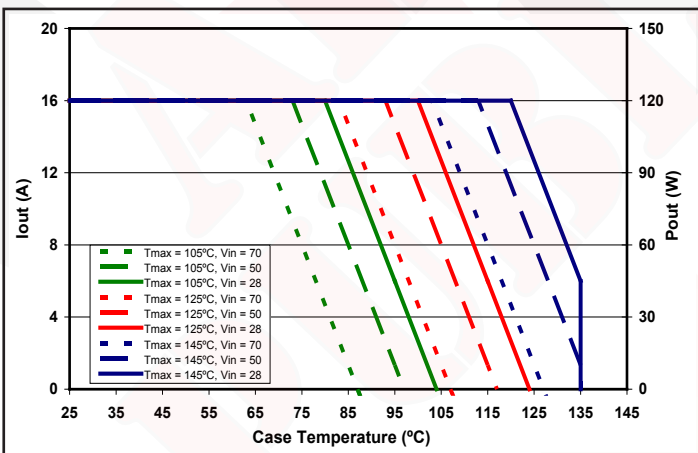

Figure 5: Output Current / Output Power derating curve as a function of T_{case} and the Maximum desired power MOSFET junction temperature (see Note 14).
2. Derate output power for continuous operation per Figure 5. 135°C is above specified operating range.